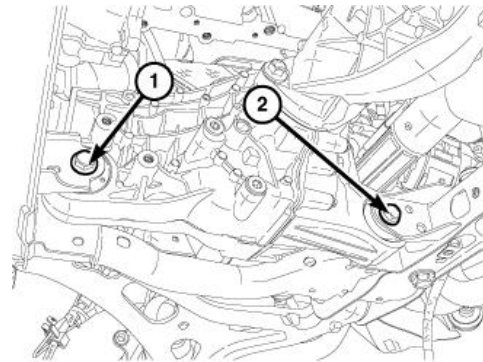

Figure 21 – Front Axle Bushing Bolts
40. Remove and **DISCARD** the front axle cover bushing bolt (2) and front axle pinion nose bushing bolt (1) from the crossmember (Figure 21).